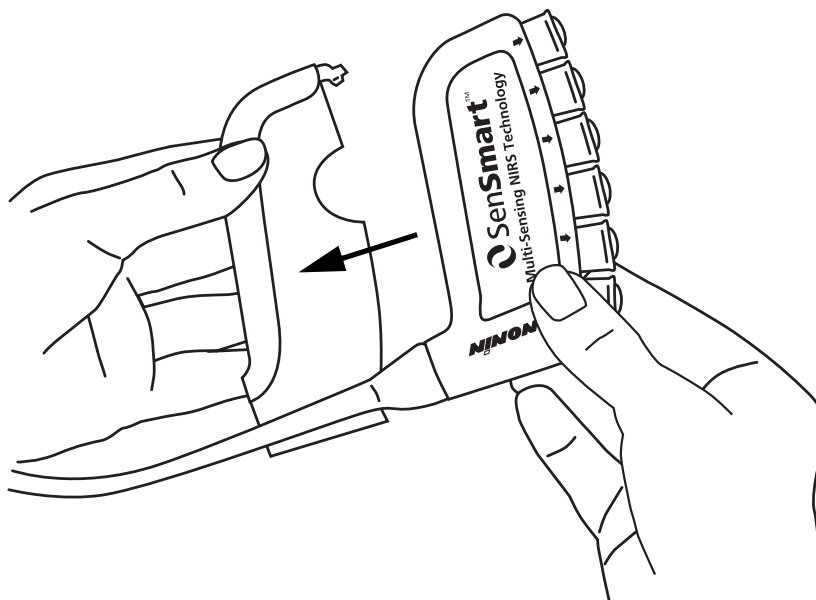

Figure 10. Insert Hub into Hub Holster
- a. Align the hub and hub cable to the hub holster (figure 10).